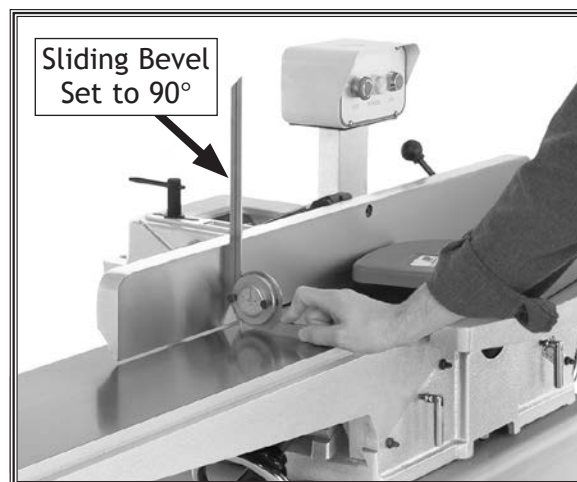

Figure 59. Example of adjusting fence to 90°.
3. Place sliding bevel set to 90° against fence and table, as shown in **Figure 59**.